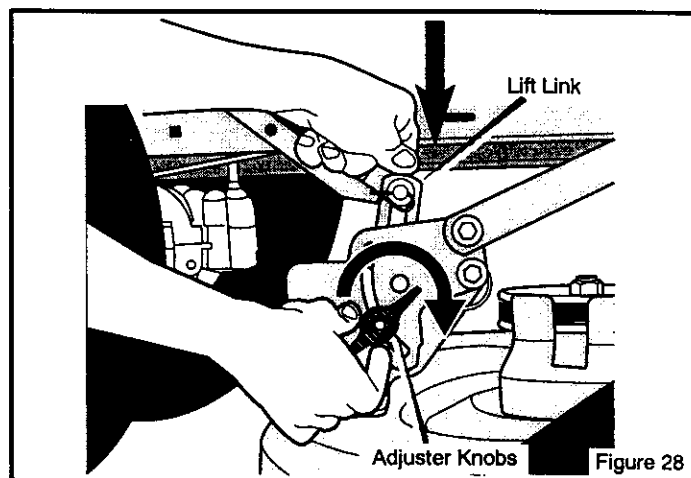

Figure 28
6. Loosen the left and right **adjuster knobs** (Figure 28). Push down on each side of the mower housing. Make sure both sides of the mower housing are setting on a flat surface. Also, make sure the lift links are loose and can easily move up or down.
7. Push down on the **lift links** and tighten the left and right **adjuster knobs** (Figure 28). Make sure the **adjuster knobs** are tight. If necessary, use a wrench to tighten the **adjuster knobs**.